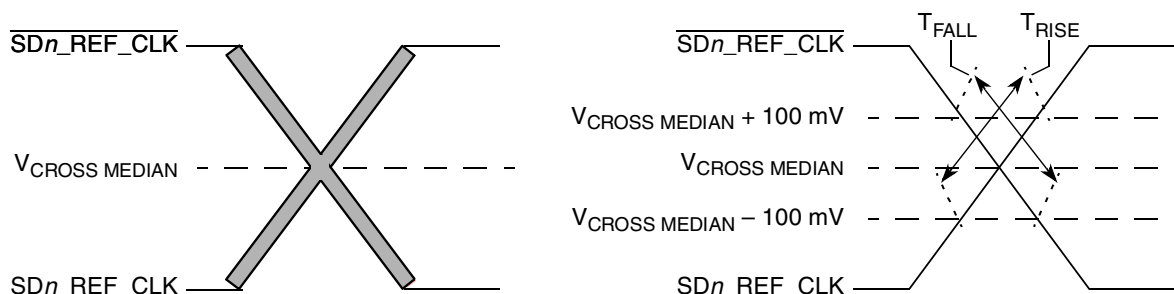

Figure 67. Single-Ended Measurement Points for Rise and Fall Time Matching
4. Matching applies to rising edge rate for SDn_REF_CLK and falling edge rate for $\overline{\text{SDn_REF_CLK}}$. It is measured using a 200 mV window centered on the median cross point where SDn_REF_CLK rising meets $\overline{\text{SDn_REF_CLK}}$ falling. The median cross point is used to calculate the voltage thresholds the oscilloscope is to use for the edge rate calculations. The Rise Edge Rate of SDn_REF_CLK should be compared to the Fall Edge Rate of $\overline{\text{SDn_REF_CLK}}$, the maximum allowed difference should not exceed 20% of the slowest edge rate. See Figure 67.